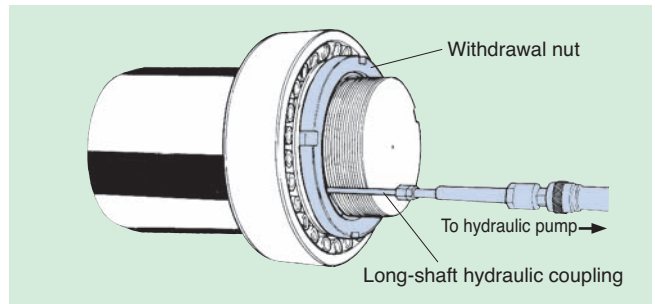

Fig. 19
(3) Set the long-shaft hydraulic coupling to the lubrication port at the end of the hydraulic withdrawal sleeve (see Fig. 19).
(4) Connect the hose from the hydraulic pump to the long-shaft hydraulic coupling (see Fig. 19).